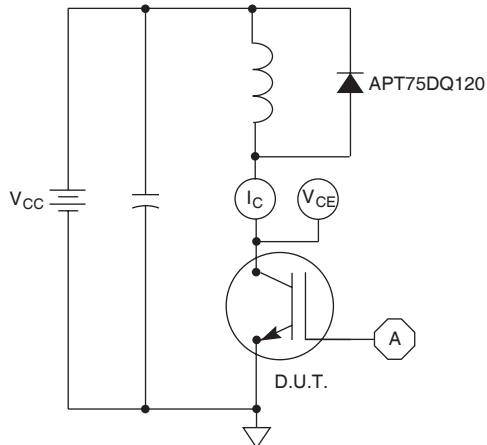

Figure 21, Inductive Switching Test Circuit
- ① Repetitive Rating: Pulse width limited by maximum junction temperature.
- ② For Combi devices,  $I_{ces}$  includes both IGBT and FRED leakages
- ③ See MIL-STD-750 Method 3471.
- ④  $E_{on1}$  is the clamped inductive turn-on energy of the IGBT only, without the effect of a commutating diode reverse recovery current adding to the IGBT turn-on loss. Tested in inductive switching test circuit shown in figure 21, but with a Silicon Carbide diode.
- ⑤  $E_{on2}$  is the clamped inductive turn-on energy that includes a commutating diode reverse recovery current in the IGBT turn-on switching loss. (See Figures 21, 22.)
- ⑥  $E_{off}$  is the clamped inductive turn-off energy measured in accordance with JEDEC standard JESD24-1. (See Figures 21, 23.)
- ⑦  $R_G$  is external gate resistance, not including  $R_{G(int)}$  nor gate driver impedance. (MIC4452)
- ⑧ Current limited by lead temperature.